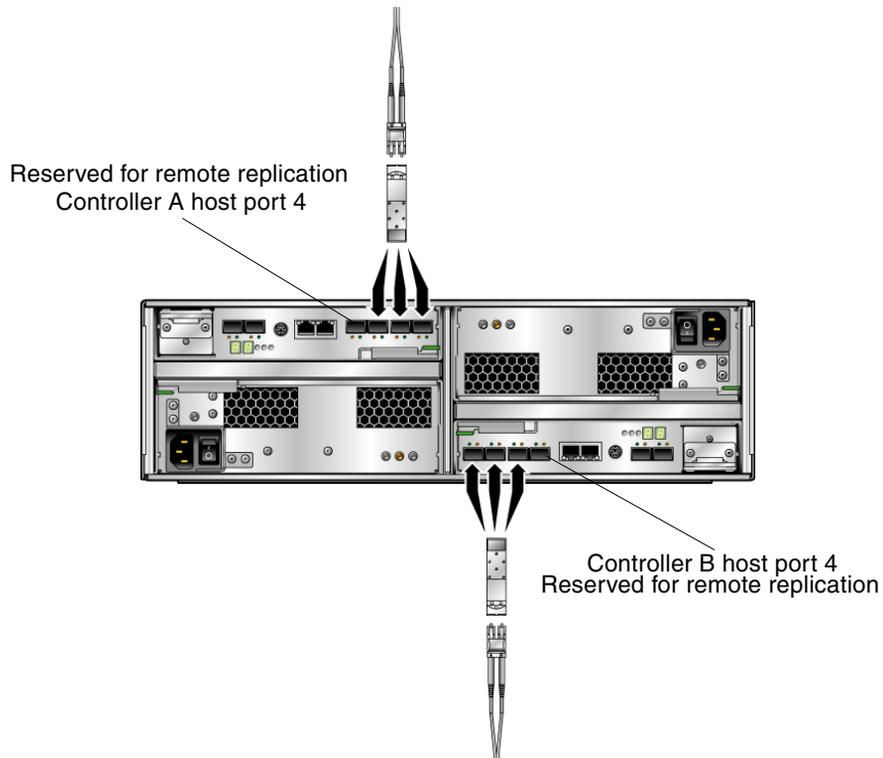

FIGURE 4-2 Host Connections
1. Locate the data host ports (Small Form-factor Plug-in (SFP) transceivers) at the back of the controller tray (FIGURE 4-2).
1. Locate the host ports at the back of the controller tray (FIGURE 4-2).